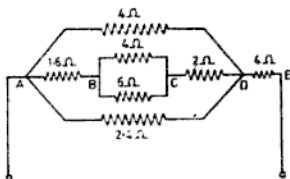

Fig. NE 3.24
- 3.24 Calculate the total resistance of the circuit shown in Fig. NE 3.24. Also find the current taken by the circuit if the applied voltage is 220 V.